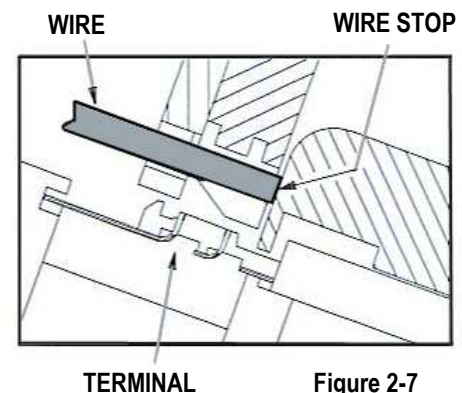

Figure 2-7
6. To load wires, insert appropriate wire under termination punches until it stops. The wire must be perpendicular to the face of the tooling and not angled up or down. See Figure 2-7 and 2-8 for correct position. When the wire is in the correct position, press the foot switch